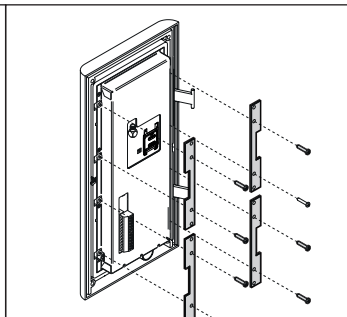

Fig. 14
- Fit the module fixing brackets using the fixing screws as shown in **Fig. 14**.